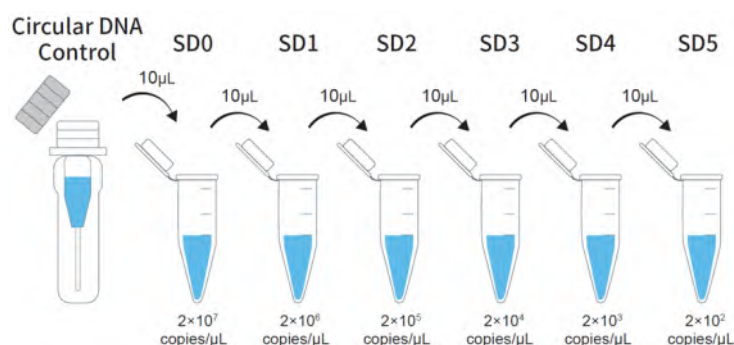

Figure 2. Circular DNA Control Dilution Diagram
- c. Continue to transfer **10 µL** of DNA from the previous dilution tube to the next dilution tube until you add DNA to tube **SD5**. After each transfer, vortex thoroughly, then centrifuge briefly. Process of dilutions is shown in the following figure 2.